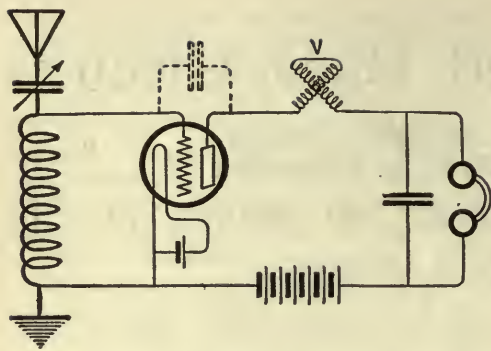

FIG. 59
**I**N FIG. 59, the voltage produced by the amplified current flowing through the variometer V is fed back to the antenna circuit through the capacity (shown in Fig. 59, as a small condenser drawn in dotted lines) that exists inside the tube between the grid and plate and the wires leading to them.